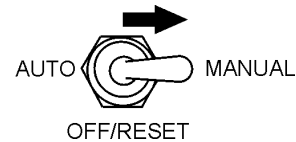

Figure 38. Auto-Off/Reset Manual Switch (Manual Position)
- Place the **Auto-Off/Reset Manual Switch** in the **MANUAL** position to start the engine (Figure 38).